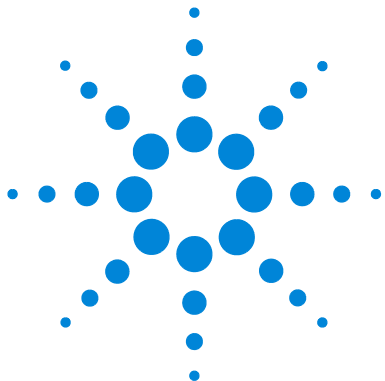

Figure 4 Assembling the power adapter
- Slide the outlet adapter on to the two metal prongs on the power adapter. A click will be heard when the plug is properly engaged. See Figure 4.